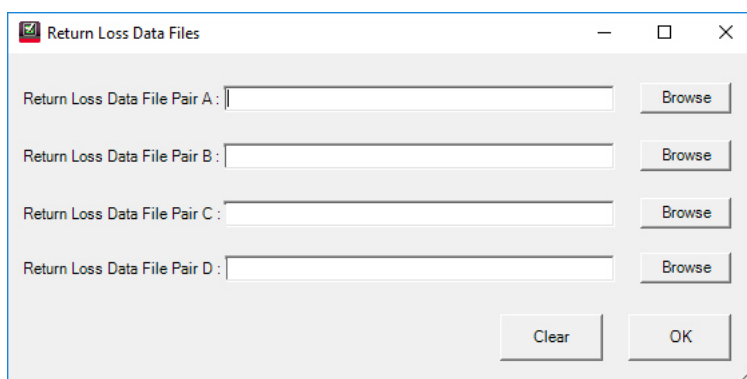

Figure 44 Data file selection pop-up box
- 13 Click the **Edit...** button to access the **Return Loss Data Files** dialog and select the data file for each pair, as shown in Figure 44.